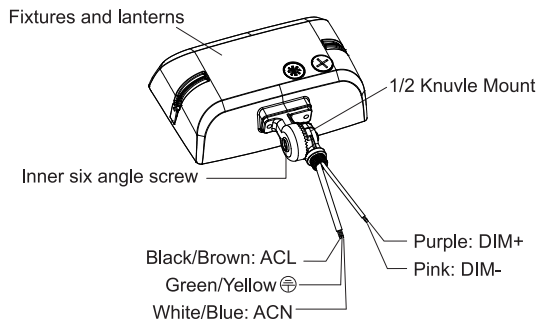
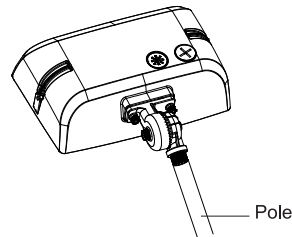

figure 1.3
figure 1.4
- Step 2: Finish the wire connection according to the right mode of connection (pay attention to positive wire, negative wire, and ground wire), (figure 1.3).and then put wire into lamp pole; (figure 1.4)